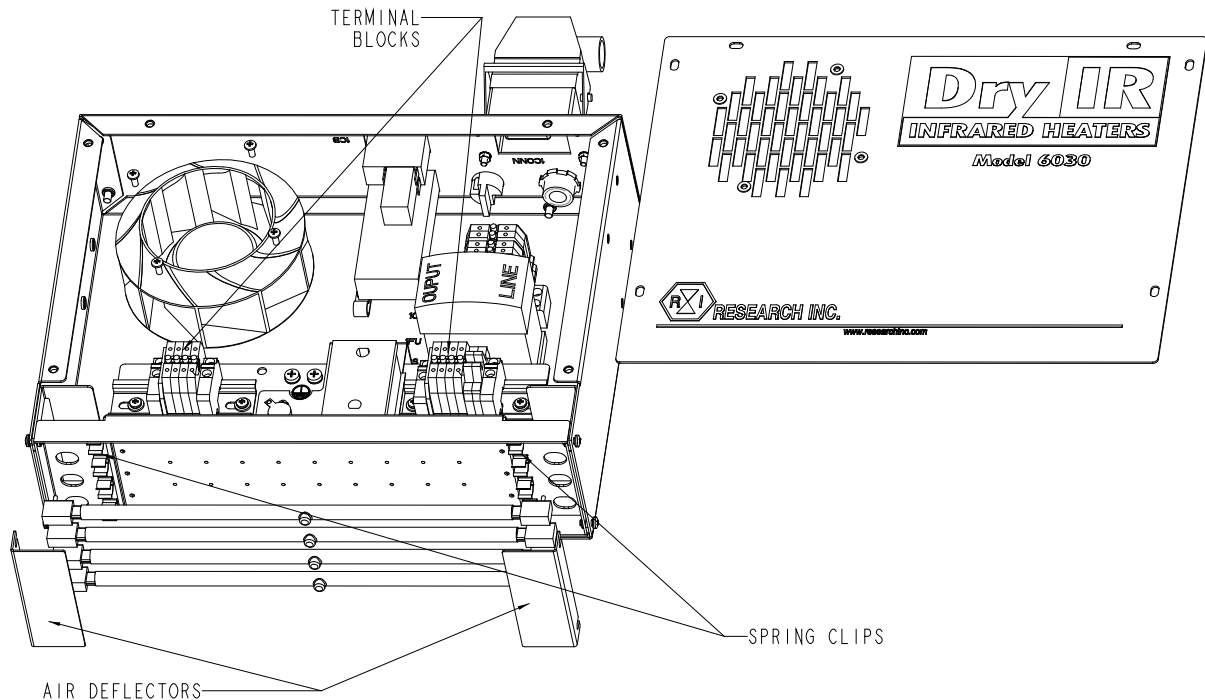

Figure 3-1. Model 6030 Spring Clip and Terminal Block locations.
3. Insert the lamp lead wires through the reflector and snap the lamp into the spring clips provided (Figure 3-1). If the lamp clips are excessively tight, gently spread the clip wider. Make sure that the lamp is held securely in the clip.